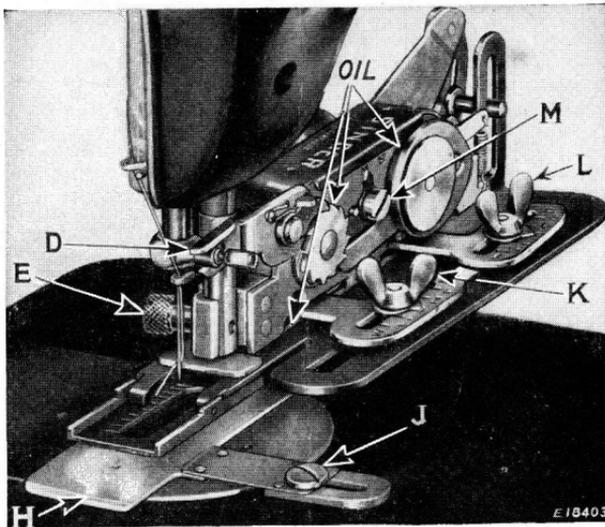

Fig. 2. Right Side, Showing Feed Cover Plate
2. Place the feed cover plate (H) in position as shown in Fig. 2.
Adjust the pointer (M, Fig. 2) for the desired number of stitches per inch, as it is not possible to stitch the buttonhole a second time. (See spacing of stitches on page 8).
The space between the stitches is determined by the position of the pointer (M, Fig. 2). For larger space turn pointer toward L, and for smaller space toward S.
To change width of bight, loosen thumb nut (K, Fig. 2) and move it toward W for wider bight, or toward N for narrower bight.
To change the width of the cutting space, loosen the thumb nut (L, Fig. 2) and move it toward W for wider space, or toward N for narrower space.
To make a tack, move the nut (L, Fig. 2) all the way back to N.
Occasionally apply a drop of "SINGER" oil or "SINGER" motor lubricant to the points shown by arrows in Figs. 2 and 3, then wipe dry so as not to stain the work.